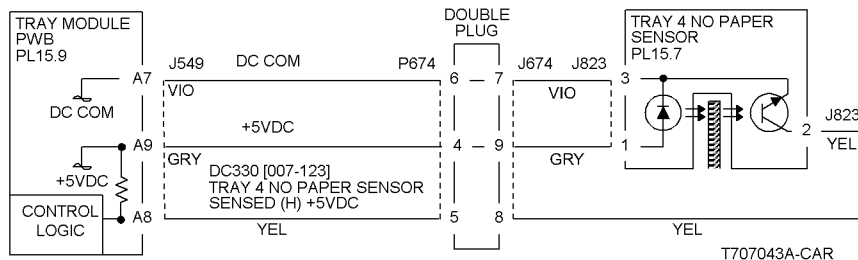

Figure 2 9-353 RAP Circuit Diagram - Tray 4 No Paper Sensor (3TM)
- Ensure that the connectors shown in the circuit diagram (Figure 2) are securely connected and that the wires are not damaged.